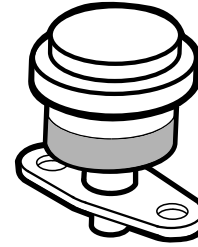

Figure 33
Service the primary air cleaner filter only when the service indicator (Figure 33) requires it. Changing the air filter before
1. Check the filter-blockage indicator. If the indicator is red, replace the air filter (Figure 33).